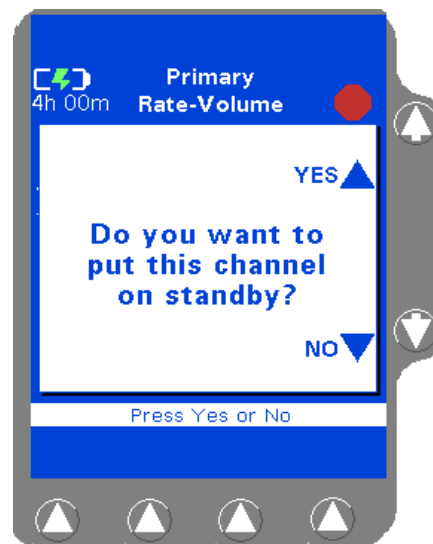

Figure 4-74 Standby Pop-up
4. Use the $\uparrow\downarrow$ keys to highlight **Standby**, then press the **Select** soft key. The Standby pop-up is displayed (Figure 4-74).